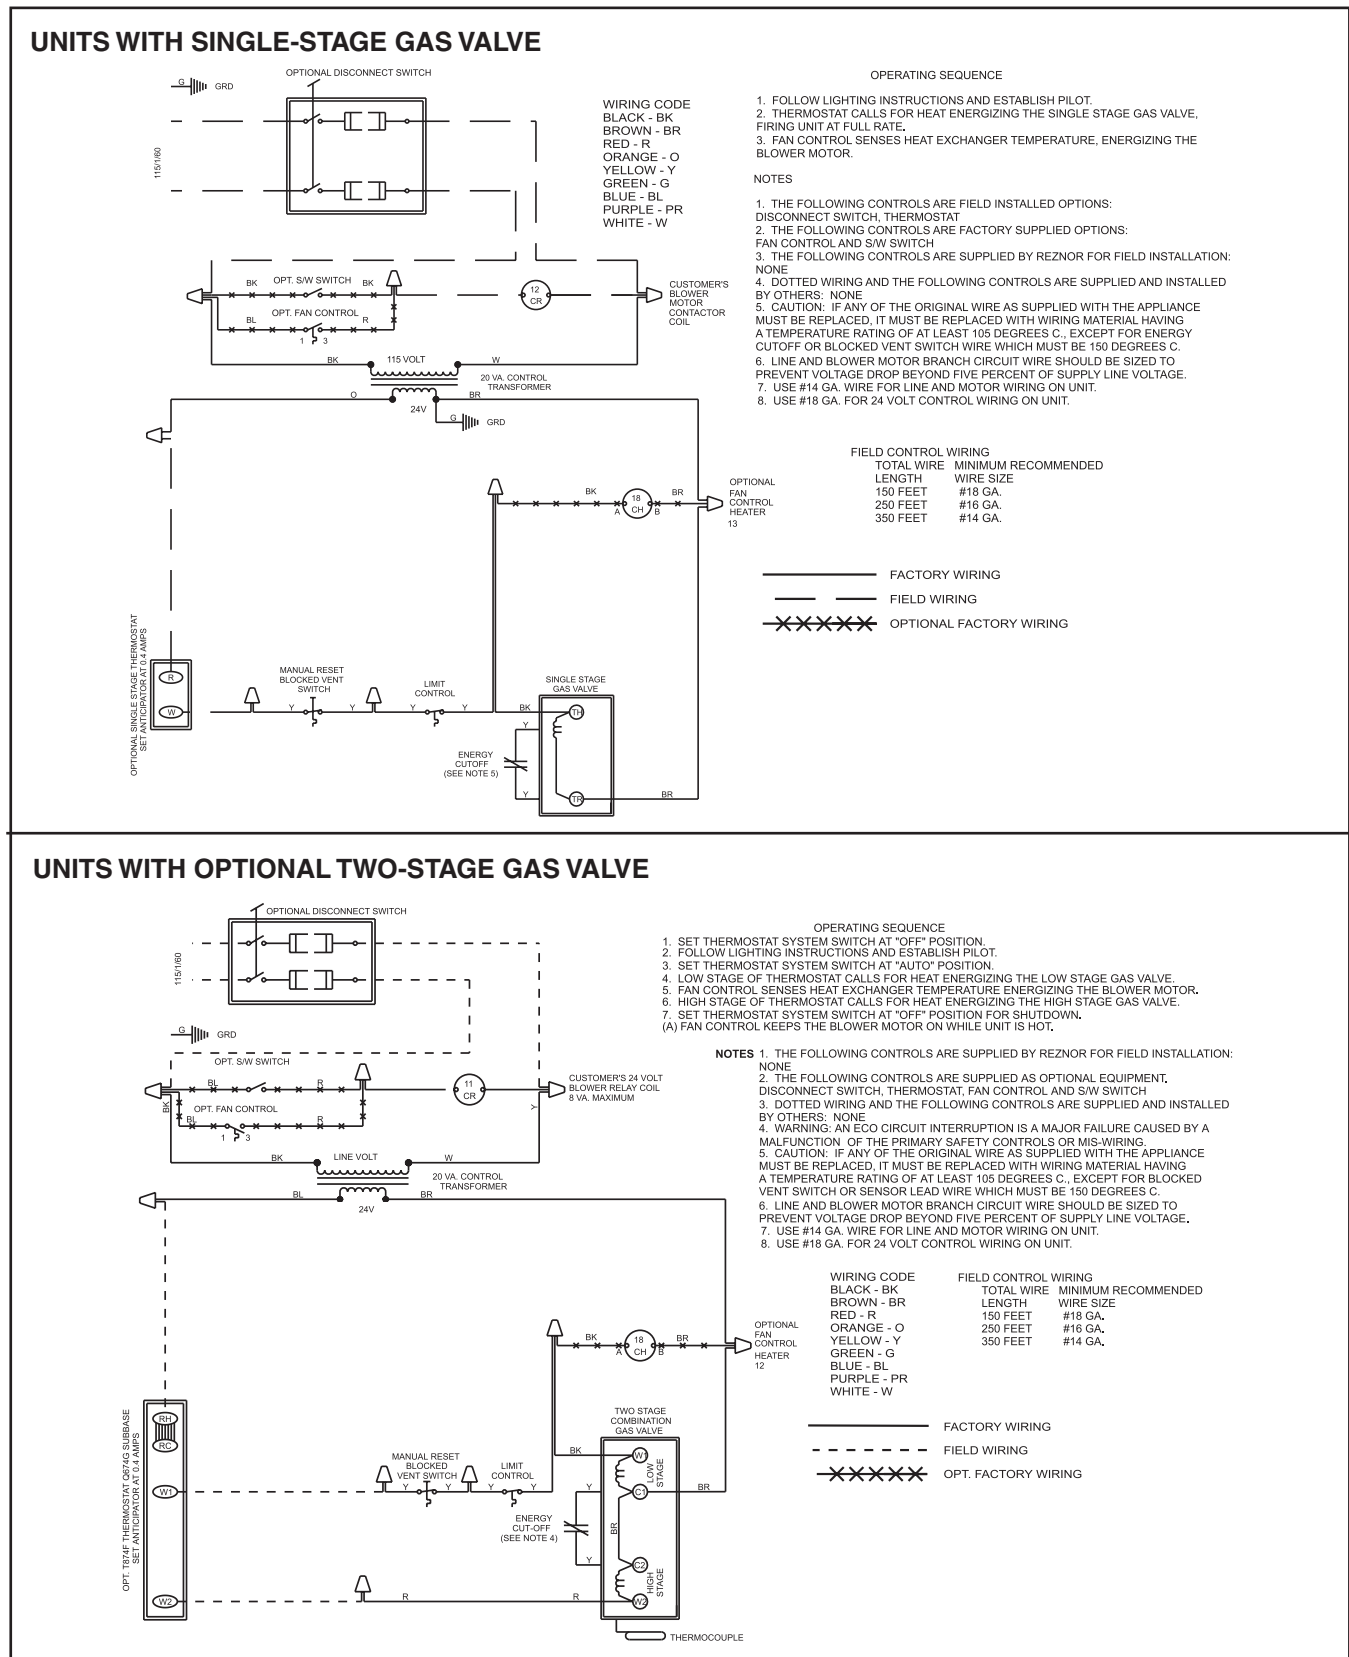

Figure 18. Wiring Diagrams for Standard Match-Lit Pilot Models (Discontinued OCT 2003)
- Wiring diagrams for units manufactured *before* OCT 2003 are shown in Figure 18.
NOTE: Units manufactured *before* OCT 2003 may have a match-lit standing pilot (see Figure 18).